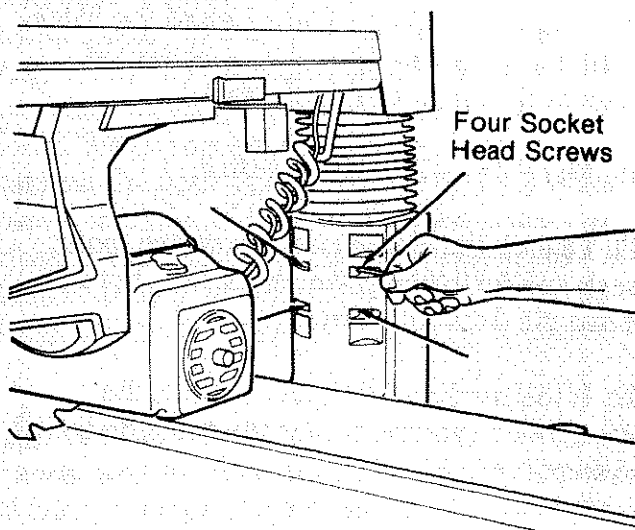

Fig. 106
13. Loosen the four screws in the front of the *column support* slightly, if you have not already done so in the Adjusting Elevation section. (Figure 106)